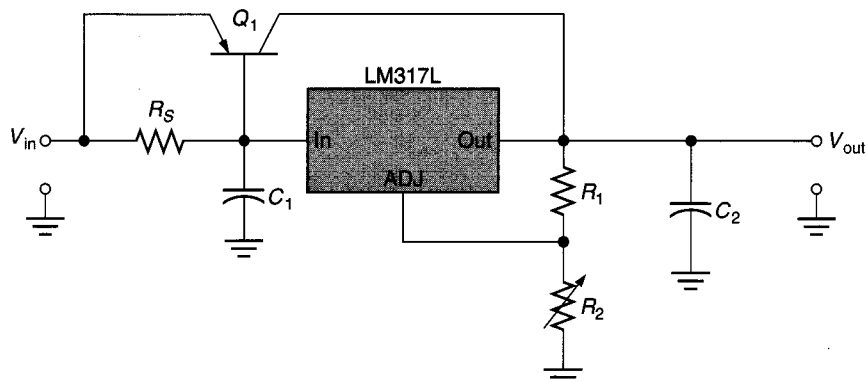
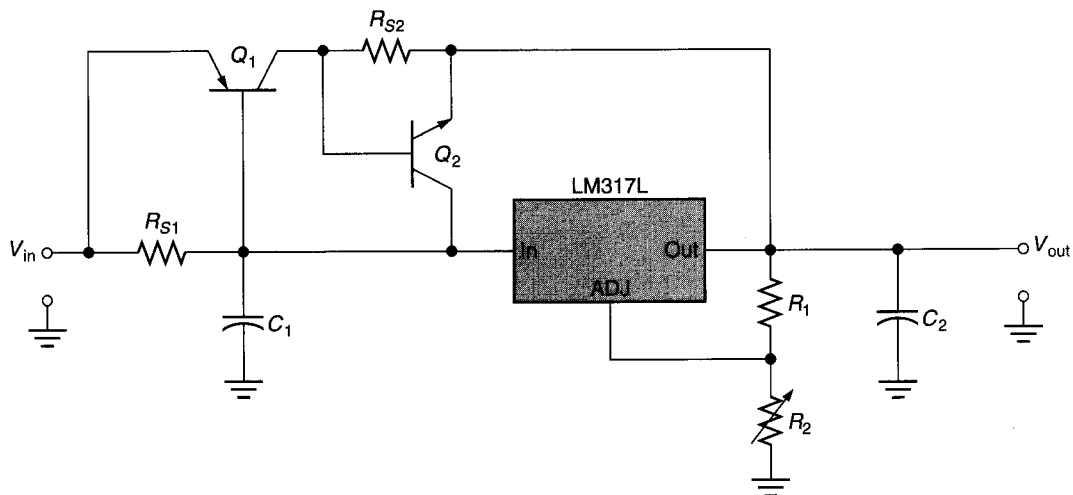

FIGURE 21.15
FIGURE 21.16 A complete linear IC voltage regulator.
Figure 21.15 shows how a *pn*p *pass-transistor* can be added in parallel with an IC voltage regulator to increase the maximum possible output current. The value of  $R_S$  in the circuit is selected to bias  $Q_1$  on as follows:
As is the case with any series regulator, the pass-transistor in Figure 21.15 may be damaged or destroyed if the load demand exceeds the current capability of the component. To protect the pass-transistor from excessive load current demand, a *current-limiting* circuit ( $Q_2$  and  $R_{S2}$ ) can be added as shown in Figure 21.16. Note that this circuit limits the load current in the same fashion as the current-limiting circuit shown in Figure 21.8.
9. What purpose is served by the circuit shown in Figure 21.15?
10. Why does the circuit shown in Figure 21.15 need to be modified as shown in Figure 21.16?